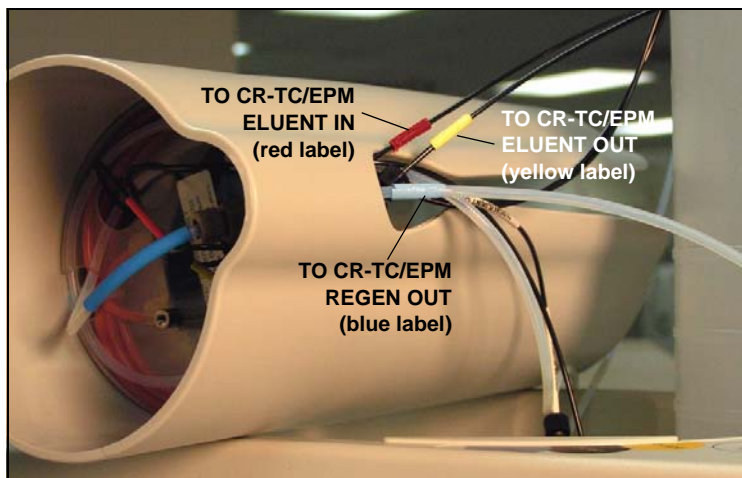

Figure 5-80. TO CR-TC/EPM Lines Outside of Holder
4. Thread the three lines from the EPM (red, yellow, and blue labels) through the opening on the side of the new holder (see Figure 5-80).